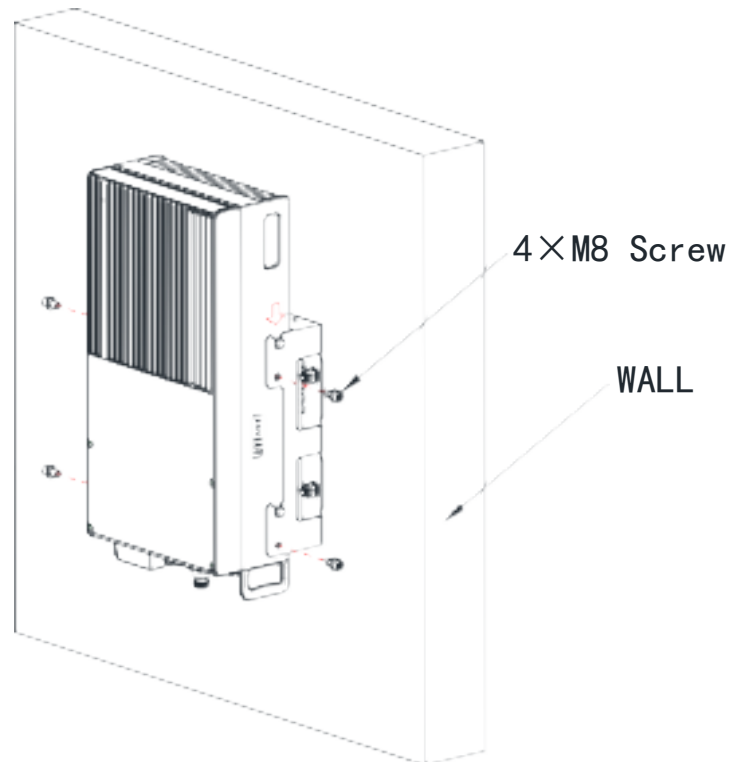

Figure 6 Wall Mounting (without Splitter)
**Step3:** Lift the device, align the four mounting screws with the slot of the mounting tray, and tighten the four M8 screws on the left and right sides to secure the device, as shown in Figure 6.